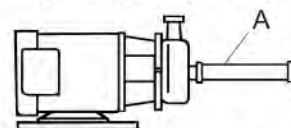

Figure 2 - Straight Pipe Length
- 3.4 Maintain a straight length of pipe (See Figure 2 item A) at least 8 diameters long at the pump inlet.